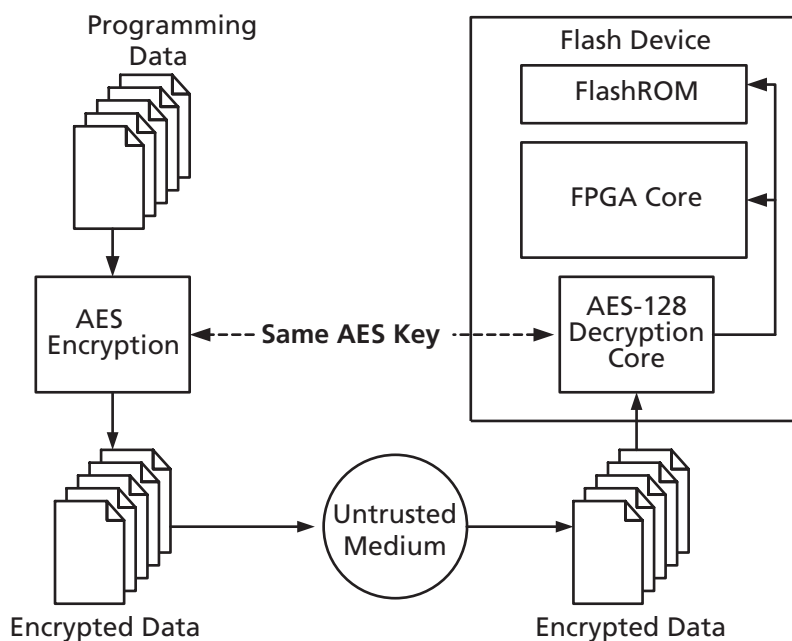

Figure 6-5 • Programming FlashROM Using AES
Low-power flash devices with AES-based security allow for secure remote field updates over public networks such as the Internet, and ensure that valuable intellectual property (IP) remains out of the hands of IP thieves. Figure 6-5 shows this flow diagram.